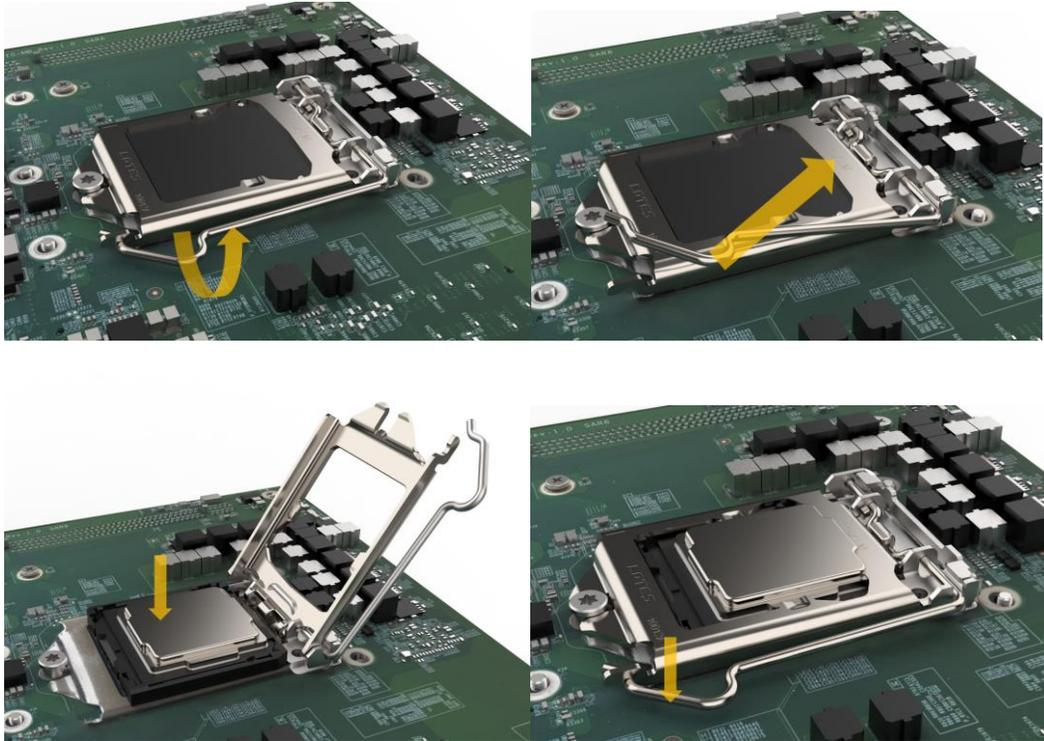

Figure 3-3: CPU Installation
Step 3: Pull the lever of the CPU buckle, remove the CPU protection cover, install the CPU at the notch, and fasten the lever down in the buckle (**See Figure 3-3**).